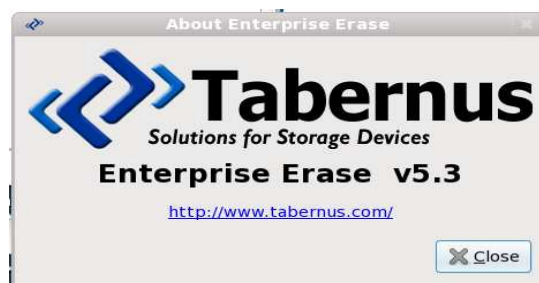

Figure 10: Software Revision About Window
7.1 The Software Revision window can be found by selecting the **Help** file pull down menu and selecting **About** at the top of the GUI. Figure 10 shows the location of this pull down menu.